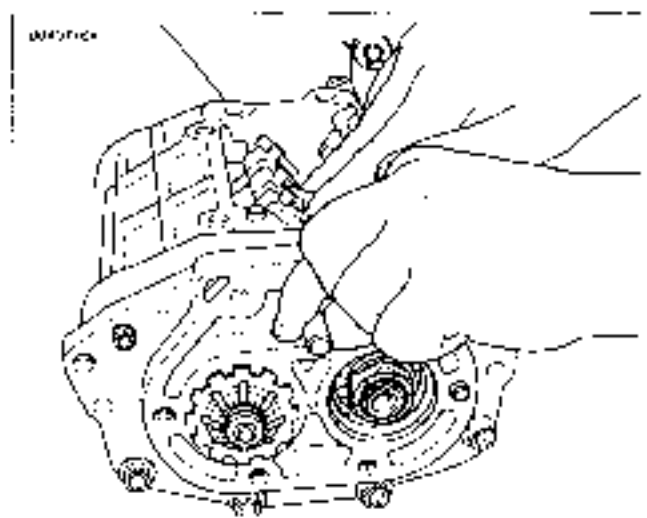

Figure 7-13. Fork Shaft
3. See Figure 7-13. Slide fork shaft out through the hole and remove the shifter forks. Continue with CLEANING AND INSPECTION below.
3. See Figure 7-13. Slide fork shaft through the transmission case hole, through the forks and into the hole on the opposite side of the case.